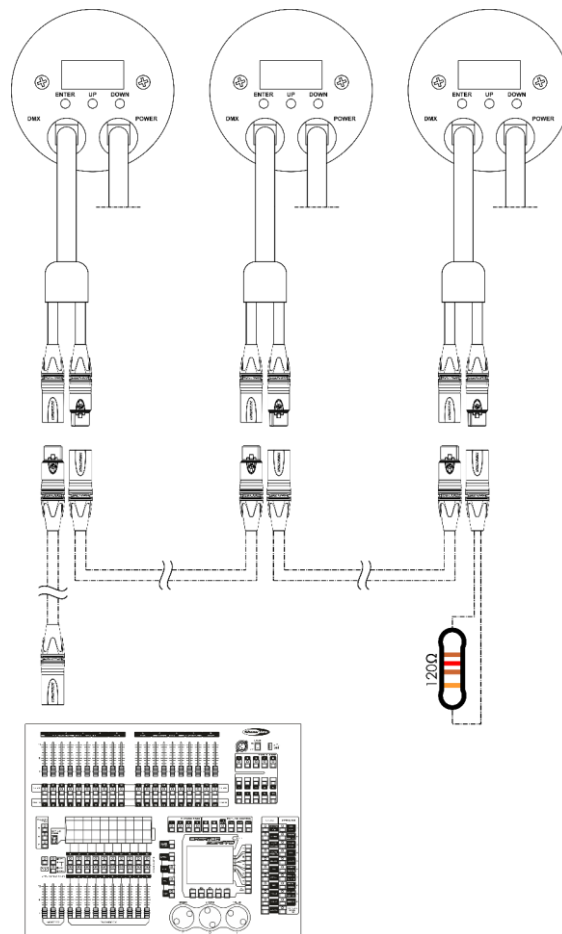

Fig. 05
- 04) Link the units as shown in Fig. 05. Connect the first unit's DMX "out" socket with the second unit's "in" socket, using a DMX-signal cable. Repeat this process to link the second, third, and fourth units.